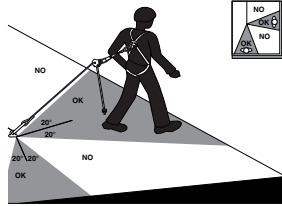

Fig 4
14. The Stopfor™ K, KS, KM, KSM, B, BS, BM, BSM must be used on a vertical belay support, or on a support forming a maximum angle of 30° with respect to the vertical. The Stopfors can be used in the horizontal position for work on a roof deck with a maximum angle of 20° with respect to the hip of the roof deck (see figure 4, page 2).